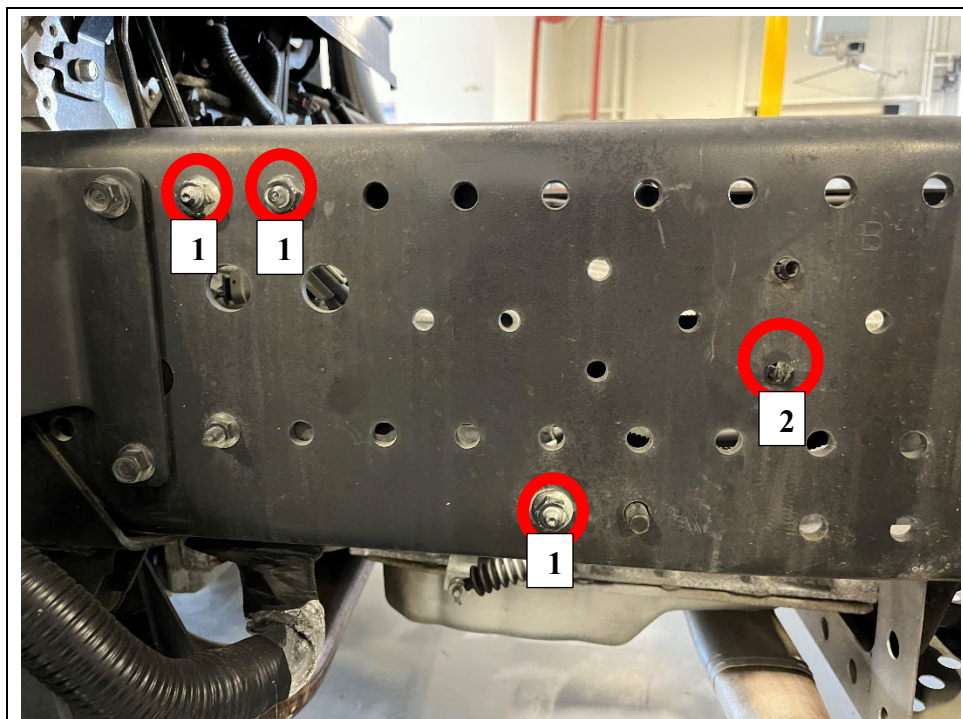

Figure 1
2. **For NPR/NPRHD ONLY** - Remove three (3) nuts and bolts (14mm) securing the transmission cooler lines and release one (1) chassis harness clip. (See Figure 1.) (**For NQR/NRR proceed to Step 3.**)
20. **For NPR/NPRHD ONLY** - Secure the chassis harness to the frame by pushing the one (1) clip removed in Step 2, back into the frame. (See Figure 1.) **(For NQR/NRR skip to Step 22.)**